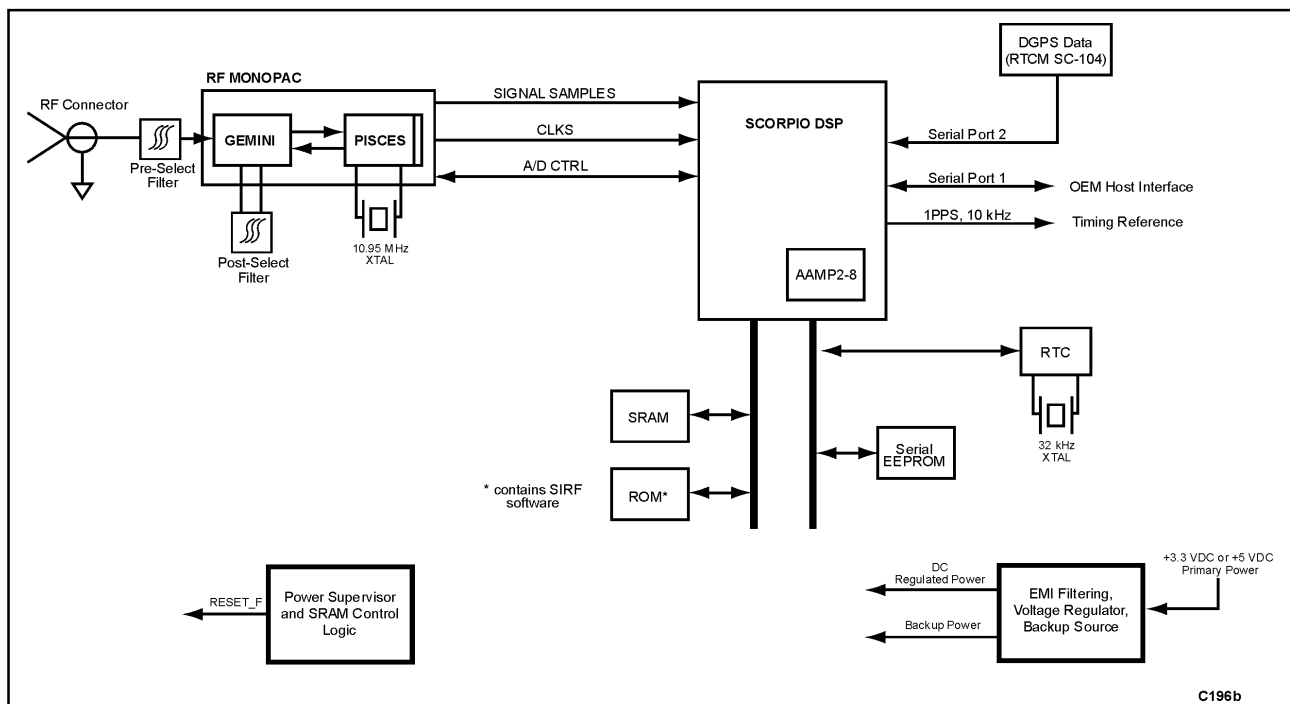
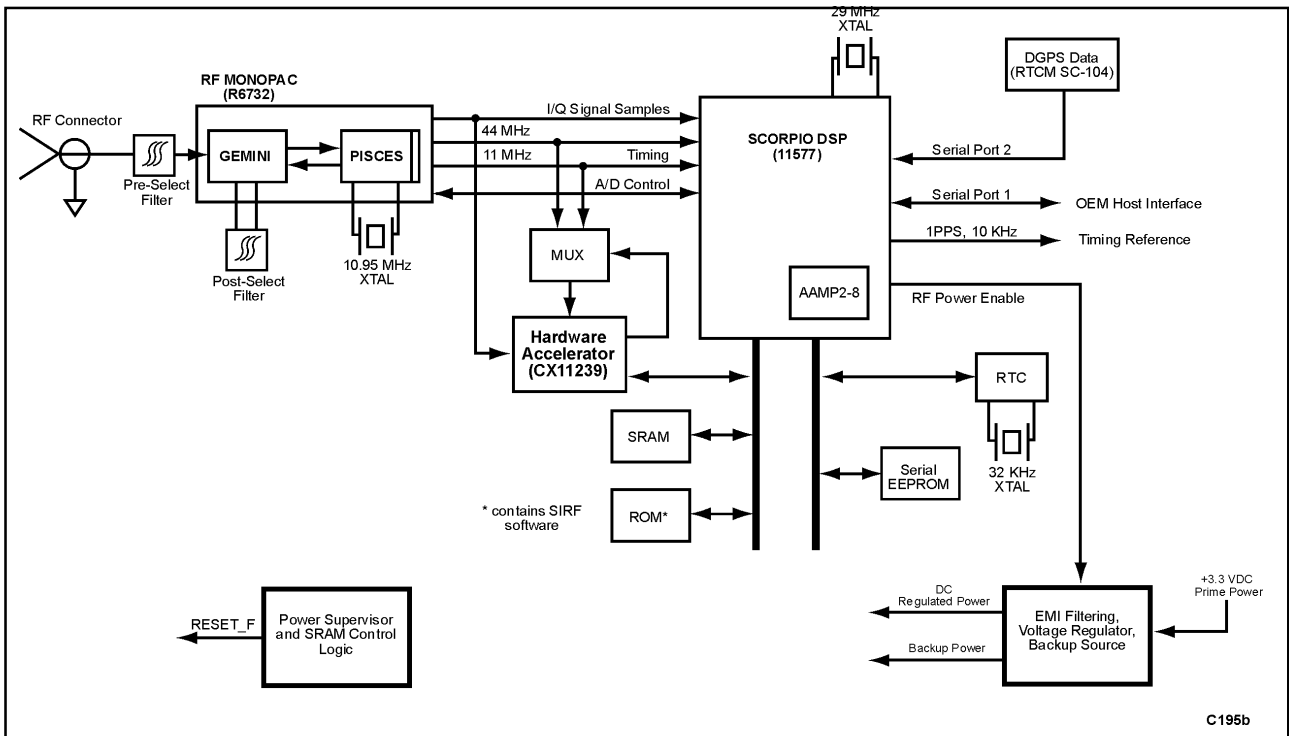
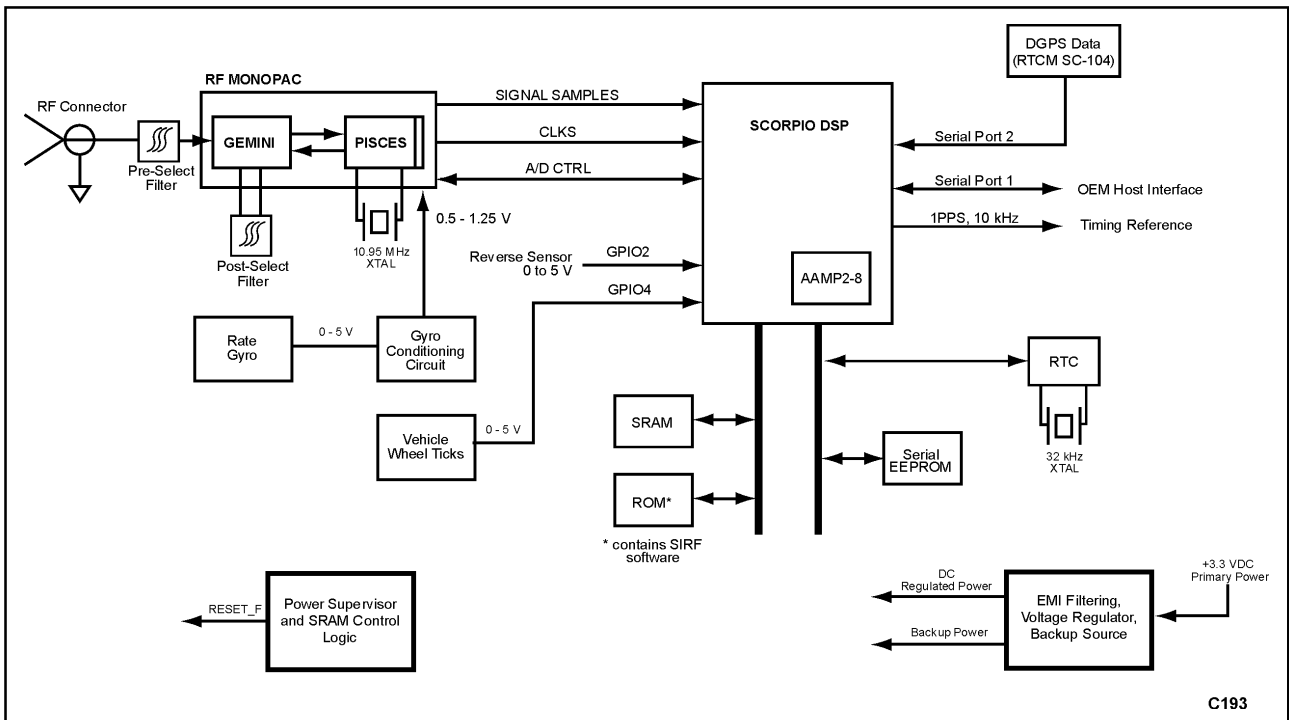

Figure 3. Basic Jupiter Block Diagram
Figure 4. Jupiter Block Diagram With The CX11239
Figure 5. Jupiter Block Diagram With Dead-Reckoning Capability
**Receiver Architecture.** The functional architecture of the basic Jupiter receiver is shown in Figure 3. Figure 4 shows the Jupiter with the CX11239 and Figure 5 shows the Jupiter with dead-reckoning circuitry. The receiver design is based on the SIRF Zodiac chipset: the Gemini/Pisces MonoPac™ and the Scorpio BP. The Gemini/Pisces MonoPac contains all the RF downconversion and amplification circuitry, and presents the In-Phase (I) and Quadrature-Phase (Q) Intermediate Frequency (IF) sampled data to the BP. The BP contains an integral microprocessor and the required GPS-specific signal processing hardware. Memory and other external supporting components configure the receiver into a complete navigation system.